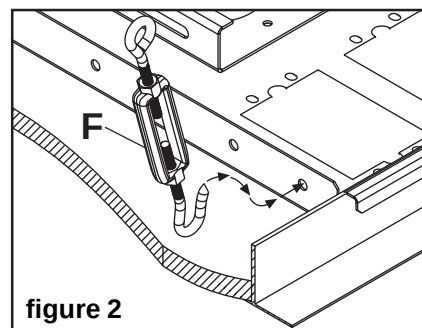

figure 2
- 3** From the bottom up, thread extension column (not included) up through retaining collar in adjustable collar mount plate. Align notch in extension column with hole in collar and fasten using M5 x 10 mm security screw (K) as shown in **detail 1**.
- 4** Snap escutcheon ring (M) around flush mount tube or extension column and slide up until flush with ceiling tile. Hook turnbuckles (F) into ceiling tray (A) as shown in **figure 2**. Hook turnbuckles through ceiling tray (A) where indicated by black rectangles in illustration below.